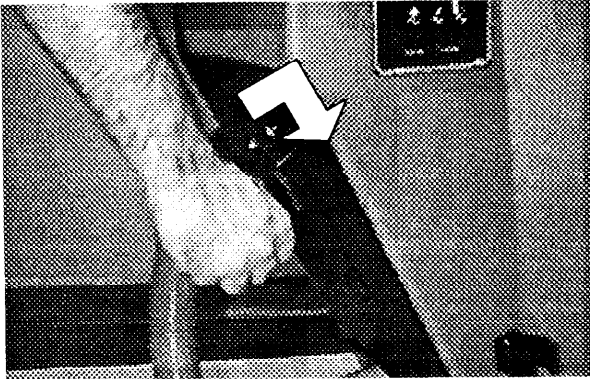

FIG. 10.
3. Lower squeegee assembly to floor, lift lever and push forward to lower. (Figure 10)